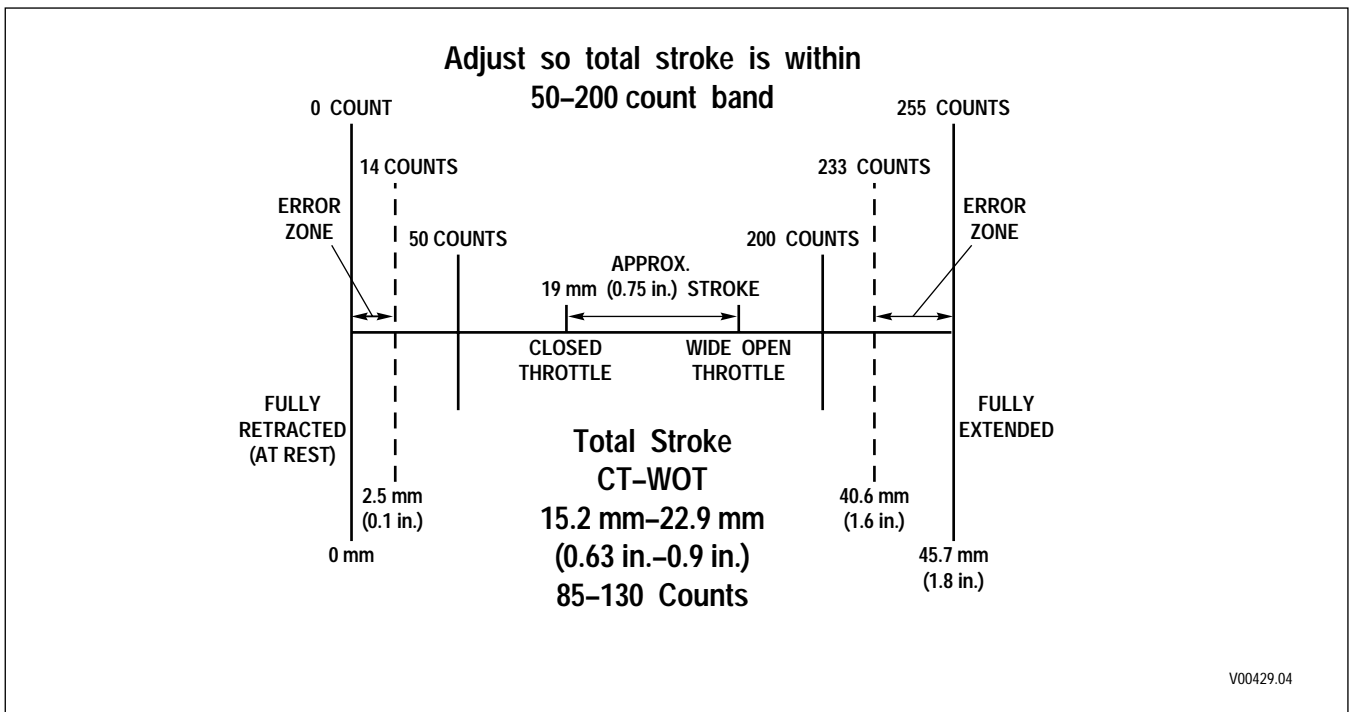
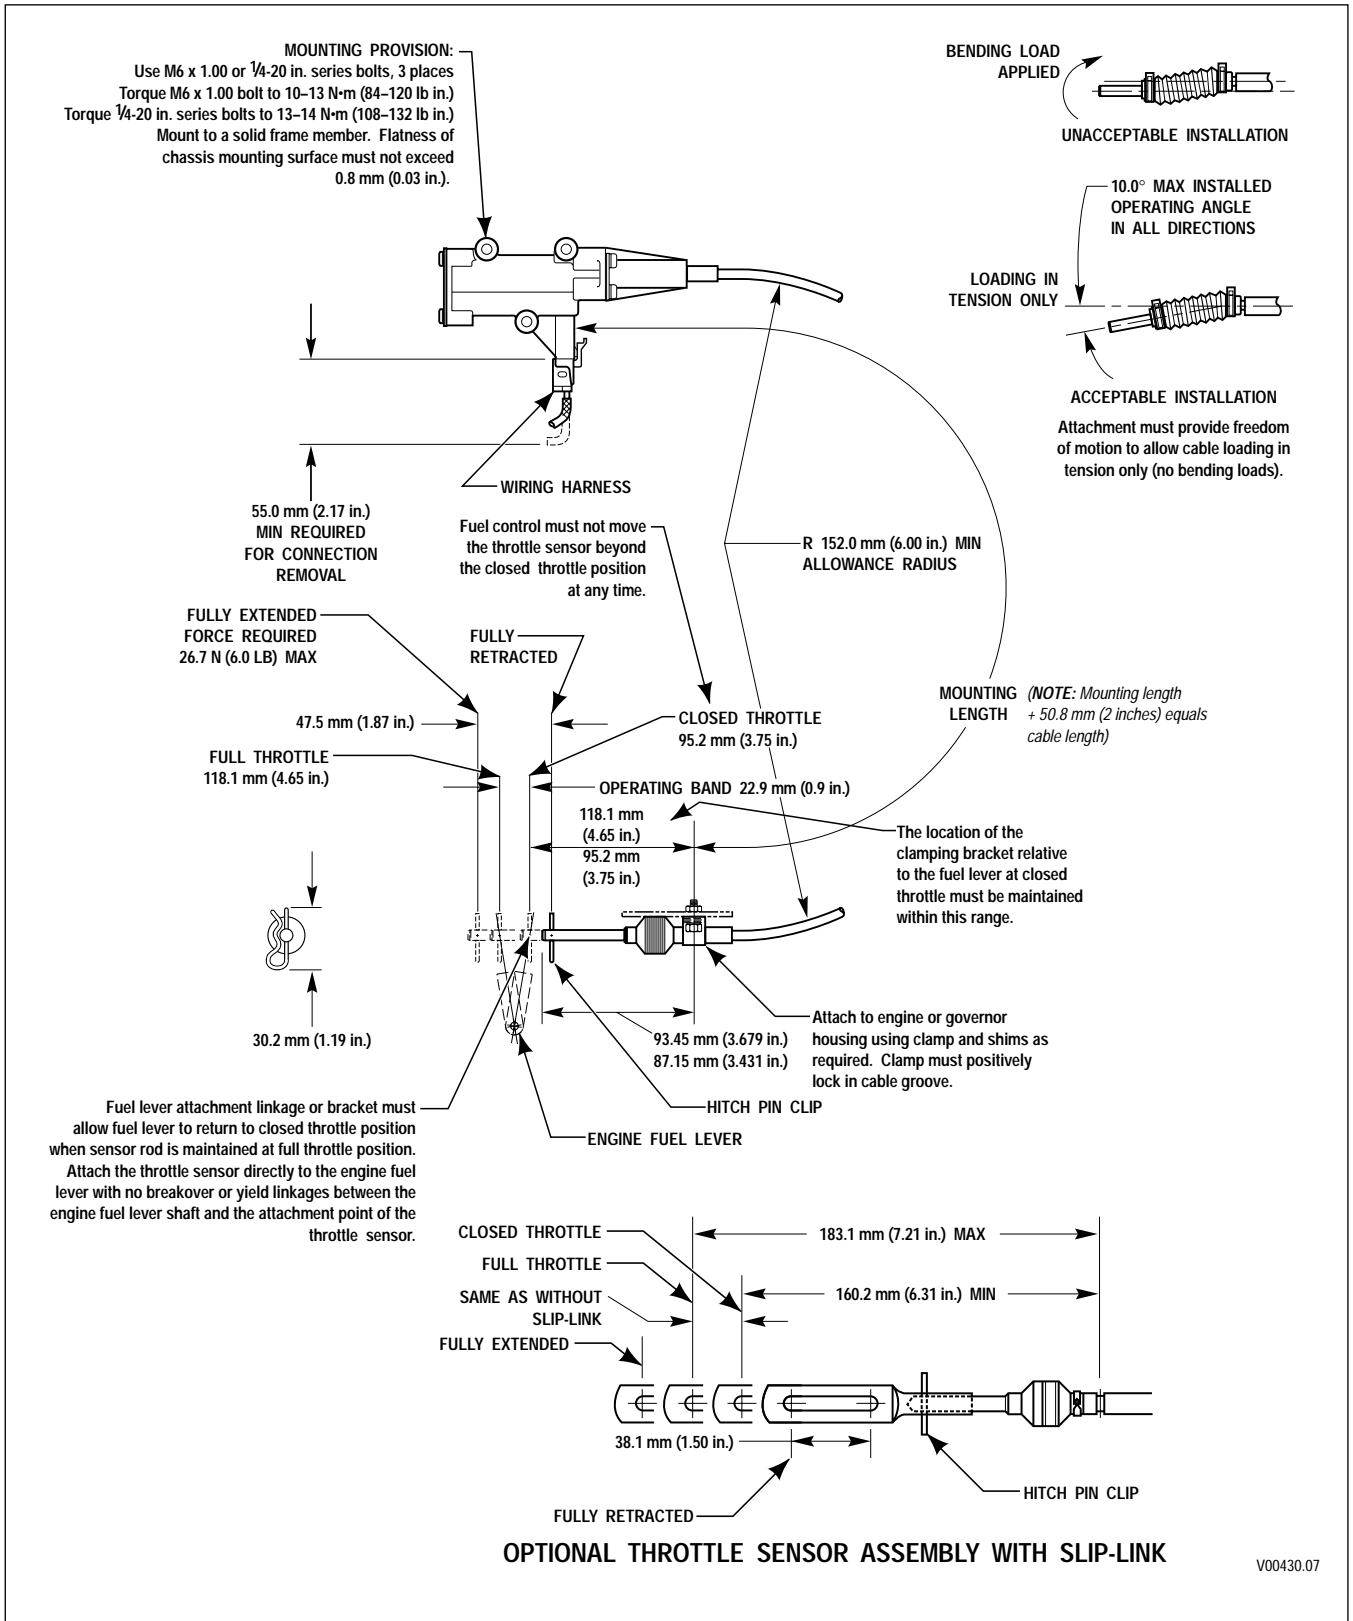

Figure F-2. Throttle Position Determination Diagram
Figure F-3. Throttle Position Sensor Adjustment
2. Each position gives a different voltage. The ECU then converts the voltage to counts. Each count corresponds to approximately .179 mm (.007 inch) of throttle sensor movement. Figure F-2 diagrams the counts and throttle movement relationship.
NOTE: *After replacing or adjusting the throttle position sensor linkage, the technician should use the diagnostic tool to clear the throttle calibration. Go to the DDR selection menu and locate ACTION REQUESTS. Select RESET THROTTLE CALIBRATION and ENTER to set the 0 percent throttle counts. After the idle counts are established, the throttle should be moved to the Full position to establish the full or Wide Open Throttle (WOT) position (100 percent). The full throttle counts will be the same as the idle counts until the throttle is moved. The full throttle counts are set when maximum travel is reached so stopping before actual full throttle will set the 100 percent point artificially low. Refer to Figure F-2 for proper counts and percentage. Refer to Figure F-3 for illustration of throttle position adjustment.*
When properly installed by the equipment manufacturer, the TPS should not require adjustment. Confirm that the throttle sensor is installed to manufacturer specifications before adjusting the throttle position sensor. The idle count should be 50 or higher and full throttle count 200 or lower. The TPS is self-calibrating meaning there is no optimum closed throttle or wide open throttle count value. As long as the counts are within the 50 to 200 range, the TPS is set properly. Total stroke of 85–130 counts must be maintained. Watch the movement of the throttle sensor as the controls move it through its full stroke. Be sure there is no misalignment or obstruction to smooth movement through the full stroke. Make certain the idle and full throttle positions are not in the error zones (refer to Figure F-2). The error zones occur when the idle position is less than 14 counts, or when the full throttle position is more than 233 counts. When idle or wide open throttle positions are in the error zones, Codes 21 12 and 21 23 occur, respectively. These codes cause the transmission to shift as if the throttle is fully depressed (100 percent throttle) affecting shift quality and causing decreased fuel efficiency. Code 21 XX may be caused by a short or open circuit in the chassis harness or by incorrect voltages. If this occurs, refer to Code 21 XX chart.